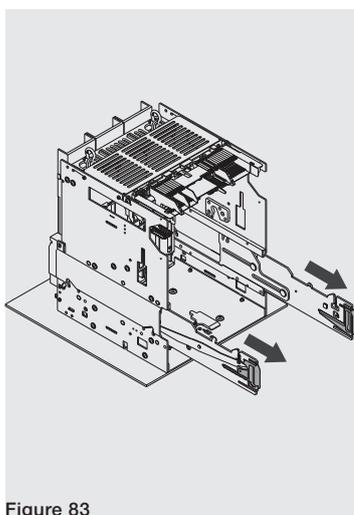

Figure 83
3. Extract the guides of the fixed part using the appropriate levers. See Figure 83.